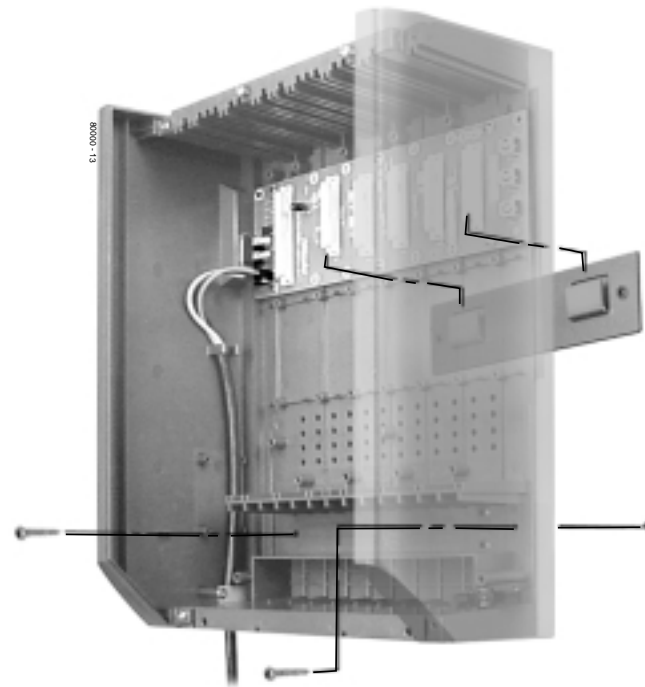

Figure 1-6 HANGING THE 4 SLOT CABINET
### Hanging the Cabinet (Figures 1-6 and 1-7)
- See Figure 1-6 when hanging a 4 slot cabinet.